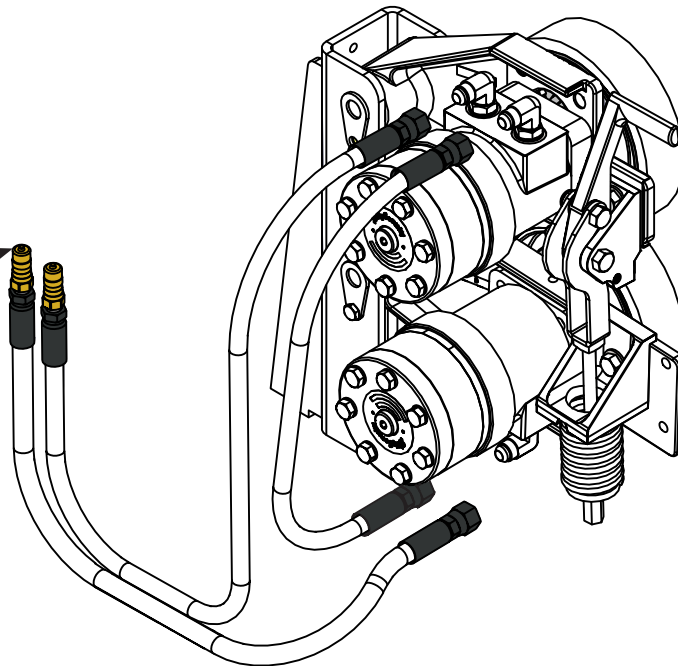

Figure 7. Connect Hydraulic Hoses
17. Connect the hydraulic hoses and hand tighten to snug. Fully tighten with wrenches (Figure 7).
3. Connect the hydraulic hose quick disconnects for the correct gate handing (Figure 7).